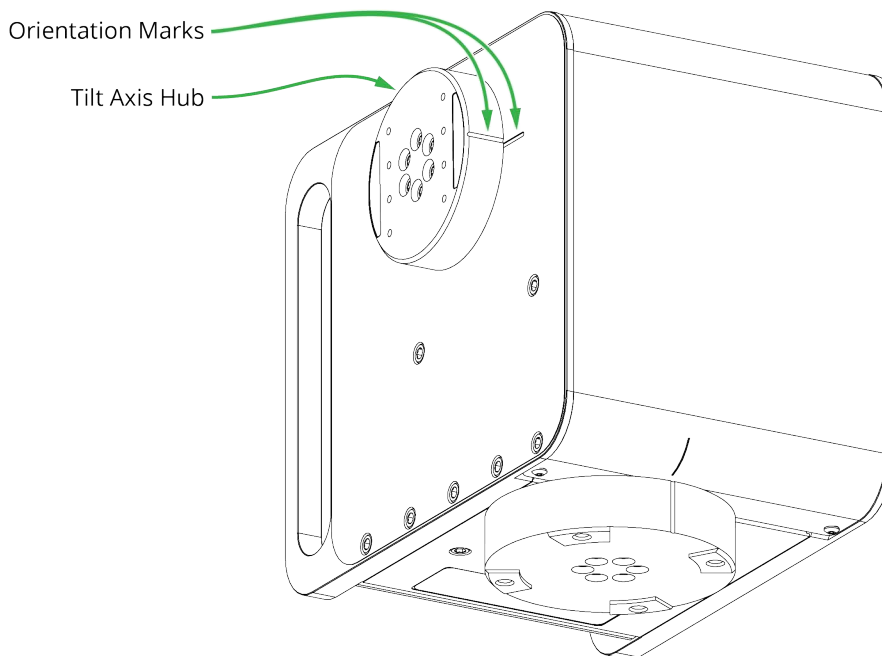

Figure 6 - X300, showing Tilt Axis Orientation Marks
1. Find the orientation mark on the **Tilt** axis hub and note whether it is aligned with a similar mark pointing towards the front of the head (**Figure 6**). The front is the side that is opposite from the connection panel.